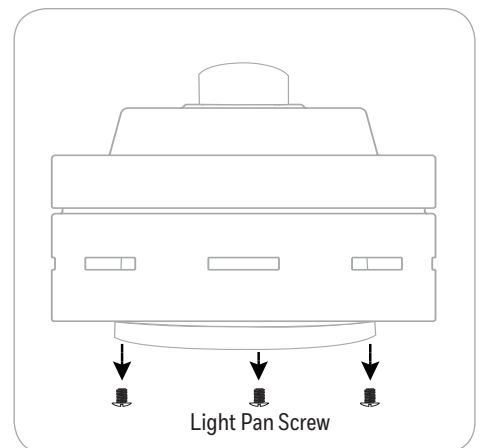

Figure 2.3
3. Remove the three fitter plate screws and the packing material from the motor assembly. Discard the orange packing material from the top and bottom of the motor assembly but save the three fitter plate screws for later (Figure 2.3).